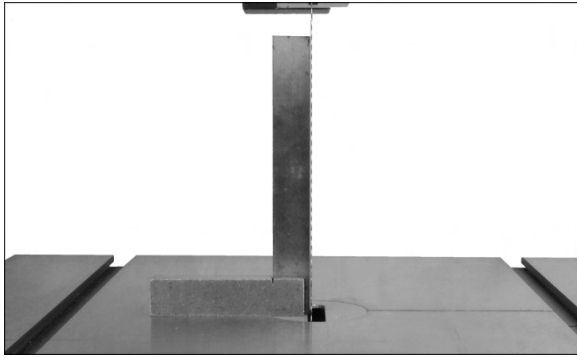

Figure 5-17: Squaring Table to Blade
2. Set a square on table top and against blade, as shown in Figure 5-17.